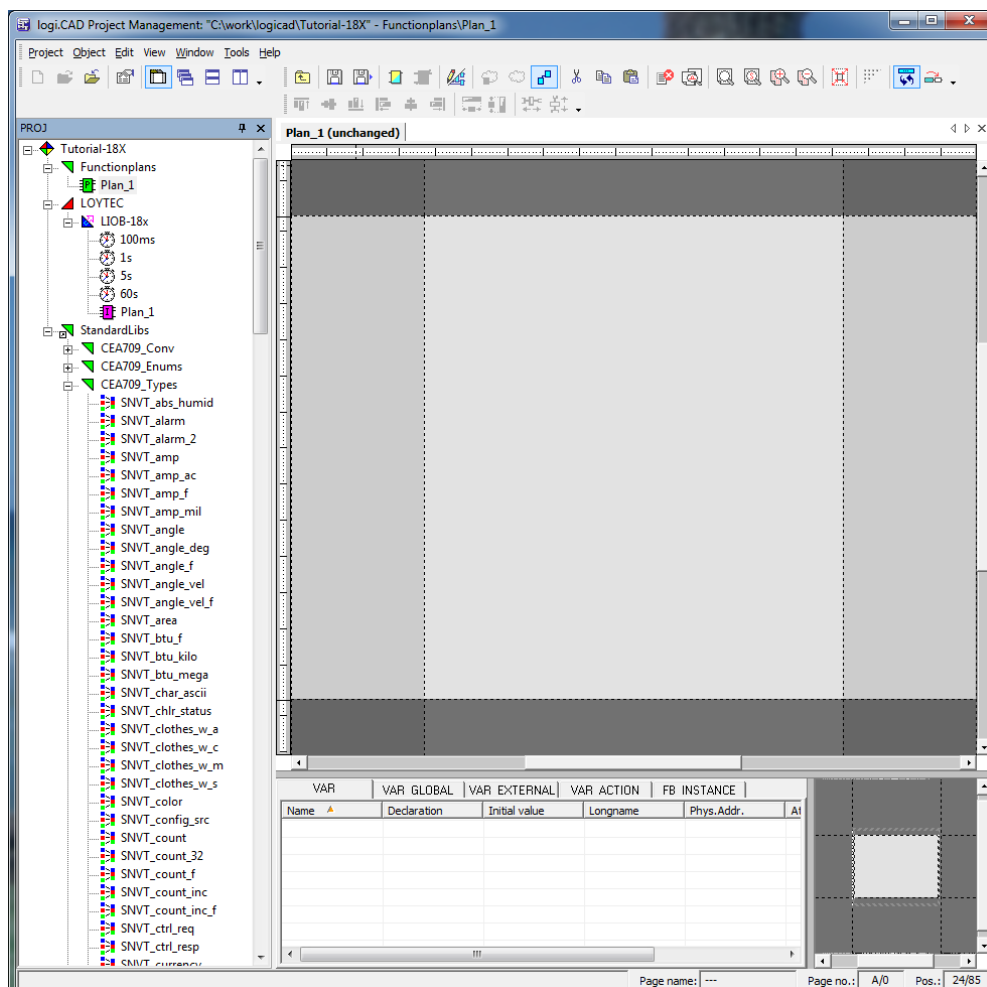

Figure 6: Edit Plan_1
7. As shown in Figure 6 below, expand the tree element **Functionplans** and double click **Plan_1** in order to start editing the plan.